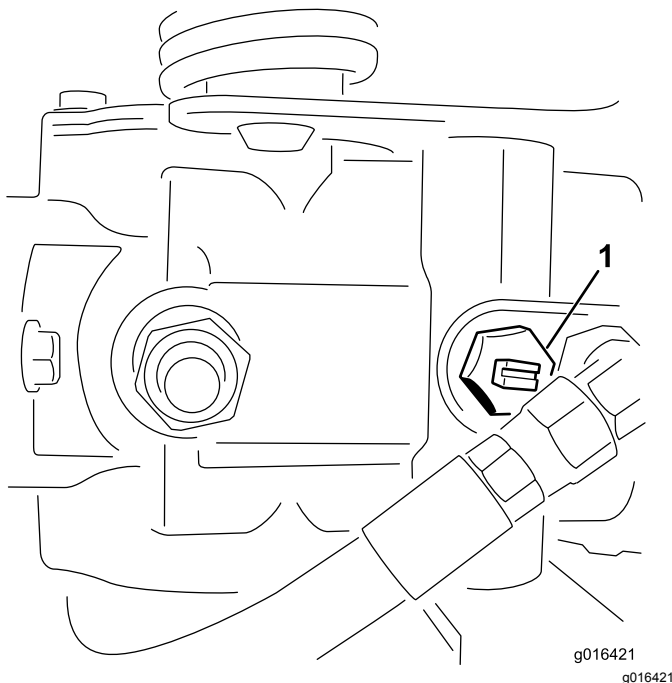

Figure 33
2. Before starting the engine, close the bypass valve by rotating it so that the slot is horizontal (Figure 33).
1. Locate the bypass valve on the pump and rotate it so that the slot is vertical (Figure 33).